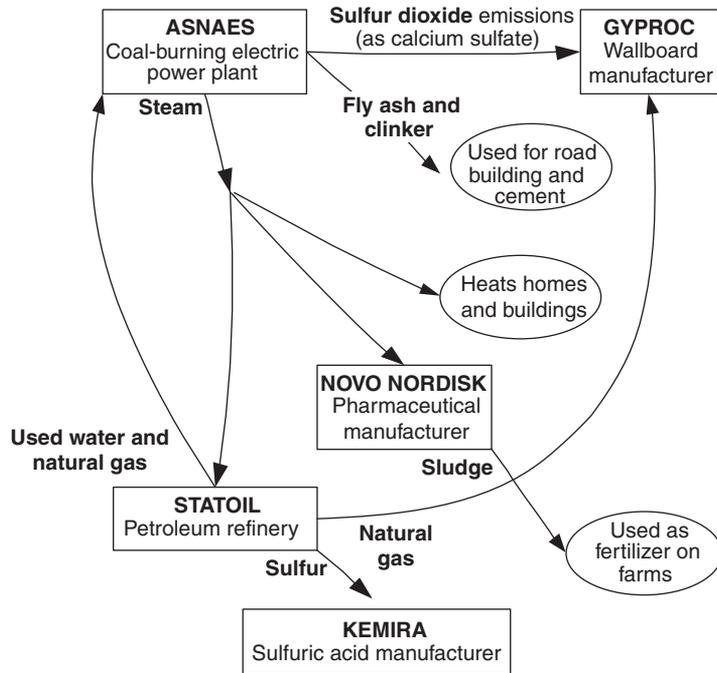

Figure 2.2
Pollution prevention is tremendously attractive, but we cannot avoid all waste and pollution. Moreover, P² alone cannot accomplish other critical environmental aims such as preserving species biodiversity or saving land. What if we could legitimately redefine the word “waste”? Kalundborg, a city in Denmark, is a model of treating wastes as useful by-products in a process called *industrial symbiosis*: by-products, whether material, energy, or water are sold or given to nearby facilities, which use or reuse them (Figure 2.2).
3. Review Figure 2.2. Then consider industrial, municipal, or other facilities in your locale.